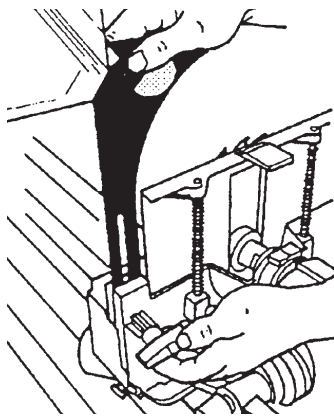

Figure 101
1. Loosen the Guard Lock Knob and insert the Upper Saw Guard's Riving Knife between the Guard and the Lock Plate, as demonstrated in Figure 101.